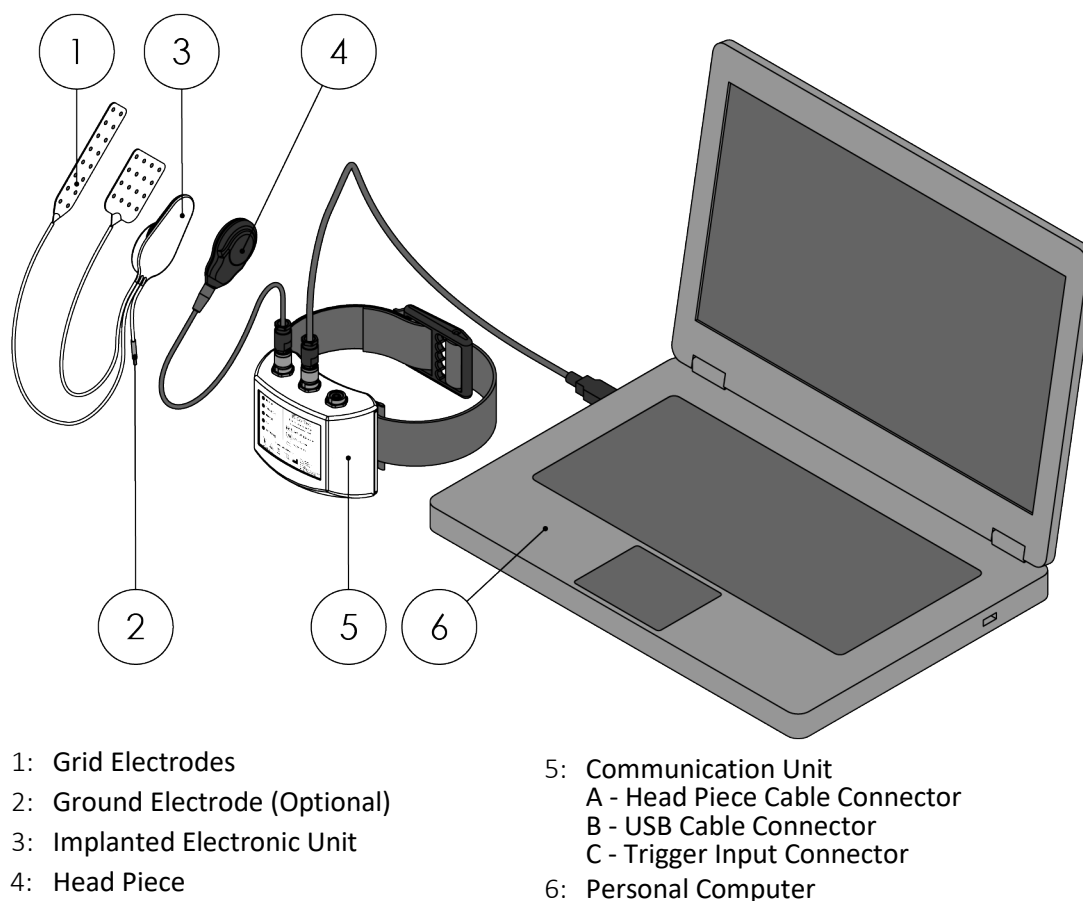

Figure 1: Overview of BIC System components
The Brain Interchange (BIC) system consists of Implanted Grid Electrodes connected to an Implanted Electronic Unit. The Implanted Electronic Unit is wirelessly powered from outside the body by a Head Piece and communicates wirelessly to a Communication Unit. The Communication Unit relays information (e.g. neural data and status information) from the implant to a Personal Computer (PC) as well as transfers commands (e.g. electrical stimulation commands) from the PC to the implant. **Figure 1** illustrates the main components the system consists of.